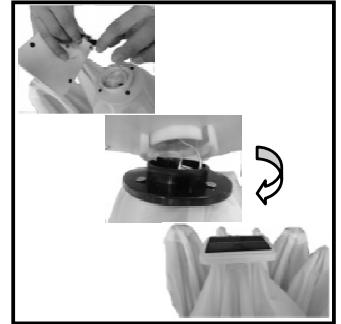

Fig. 1
- d) Connect plugs in between solar panel and socket on top of canopy, push down and tighten by twist clockwise until solar panel is securely fastened. (see Fig. 1)